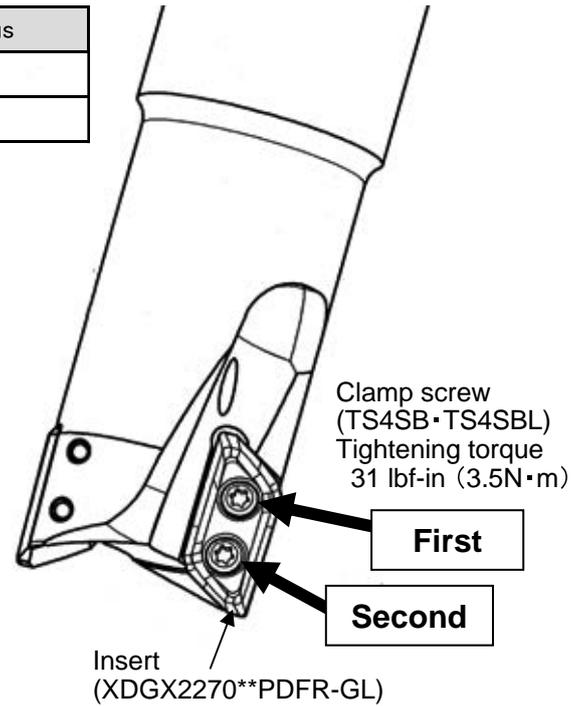

Fig. 1 Tightening order
3. When tightening the clamp screws, follow the order in Figure 1.